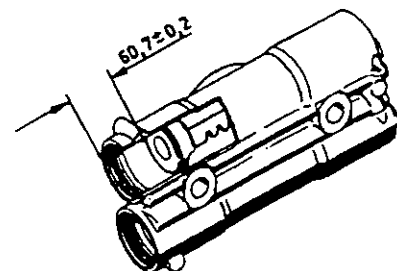

Fig.46
Slide both pistons (258) into add-on cylinder (250) up to the middle position (installed value 60.7 ±0.2 mm) (Fig.46).